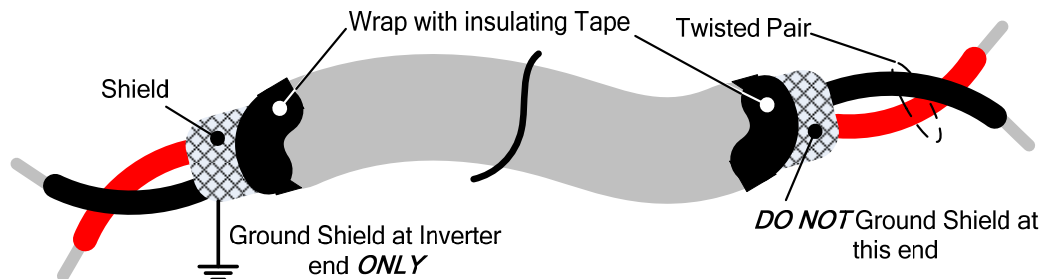

Figure 3.3.7.1 Shielded Twisted-Pair
- (1) Separate the wiring for control circuit terminals from main circuit wiring for terminals (R/L1, S/L2, T/L3, U/T1, V/T2, and W/T3).
- (2) Separate the wiring for control circuit terminals (R1A, R1B, R1C / R2A, R2C /R3A, R3C) from wiring for terminals S1 ~ S6, A01, A02, GND, +10V-, AI1, AI2, and GND wiring.
- (3) Use shielded twisted-pair cables (#24 - #14 AWG / 0.5 -2 mm²) shown in Fig. 3.3.7.1 for control circuits to minimize noise problems. The maximum wiring distance should not exceed 50m (165 ft).